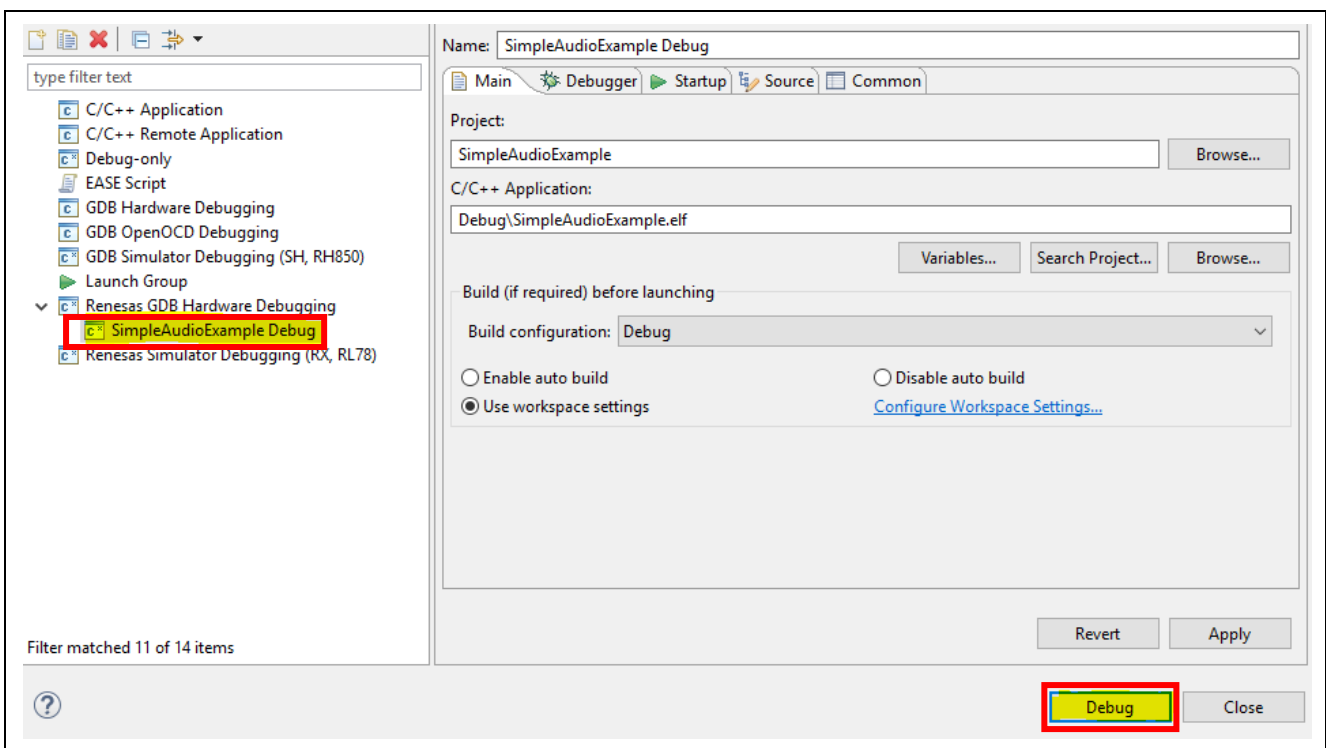

Figure 4. Debug configurations
3. In the **Renesas GDB Hardware Debugging** section, select **SimpleAudioExample Debug** as shown in Figure 4.